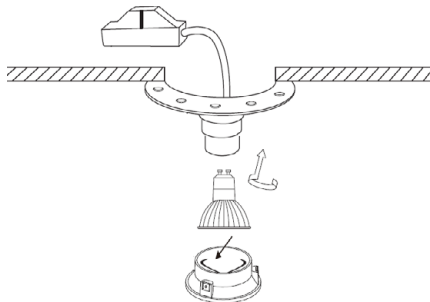

Fig. 4
- Remove the inner bezel by pulling it down and insert a suitable LED GU10 lamp (see Fig. 4)